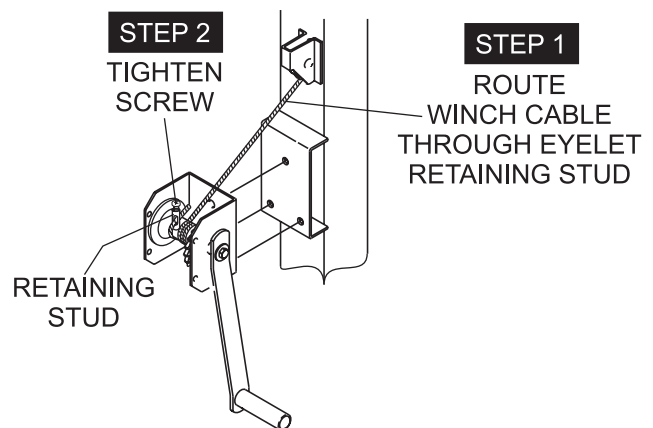

Figure 39. Connecting the Winch Cable to the Winch
10. Route the tip of the winch cable (Figure 39) through the eyelet retaining stud. Insert cable retaining screw at top of stud and tighten.